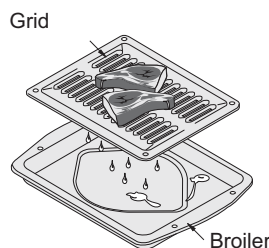

Figure 16: Broiler pan/insert
1. Arrange interior oven racks and place the broiler insert on the broiler pan, then place the meat on the insert. Remember to follow all warnings and cautions (Figure 16).